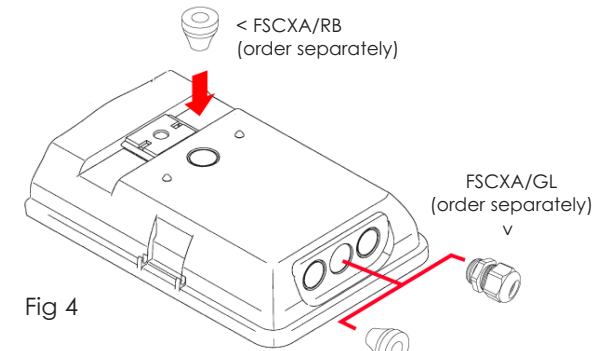

Fig 4
- If using the IP rated bung, then pierce and insert at the end of the body. Then feed through the 3 or 4 core cable (see Fig4)
- If using the IP rated gland then attach at the end of the body and feed the 3 or 4 core cable through and tighten the gland head. (see Fig4)
If wiring into the back of the luminaire then you must use a second IP rated bung to retain IP integrity. (see Fig4)